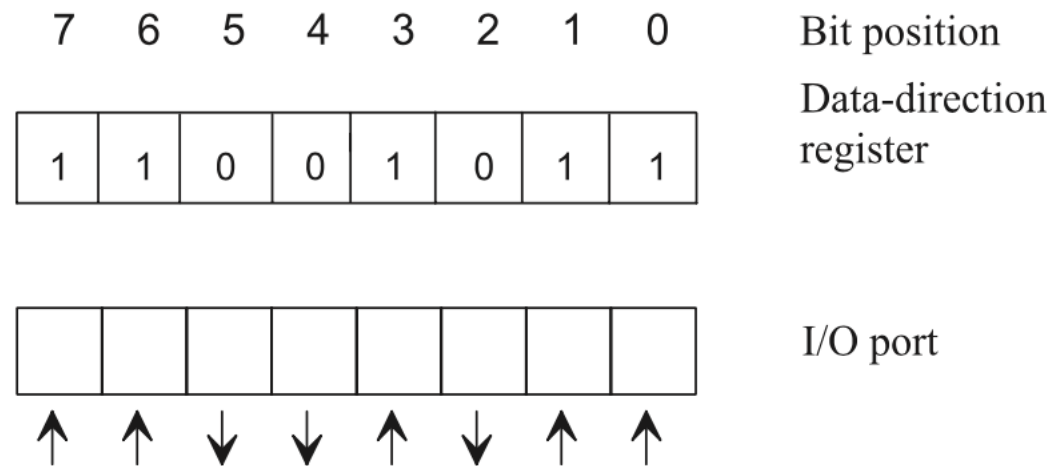

FIGURE 3.15 I/O port with the corresponding data-direction register.
- For example, if an 8-bit DDR in the PIC18F contains 0xCB, the corresponding port is defined as shown in Figure 3.15.